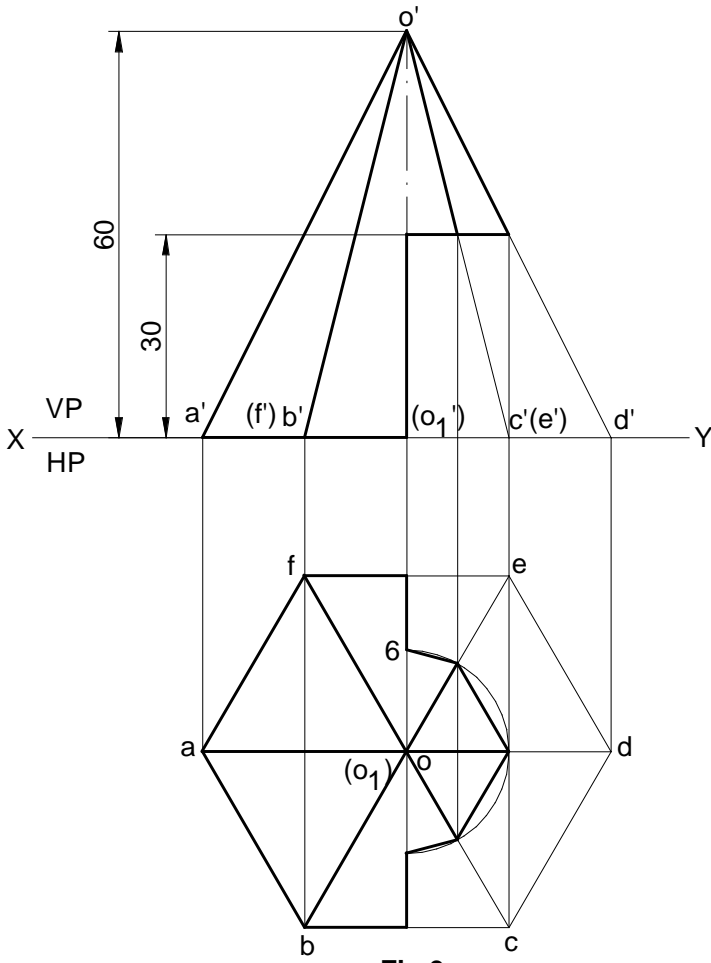

Fig 9
34. A hexagonal pyramid of 30 mm base sides with a side of base parallel to VP. Draw the development of the lateral surfaces of the retained portion of the pyramid cut by two perpendicular planes shown by dark lines in the fig 9.